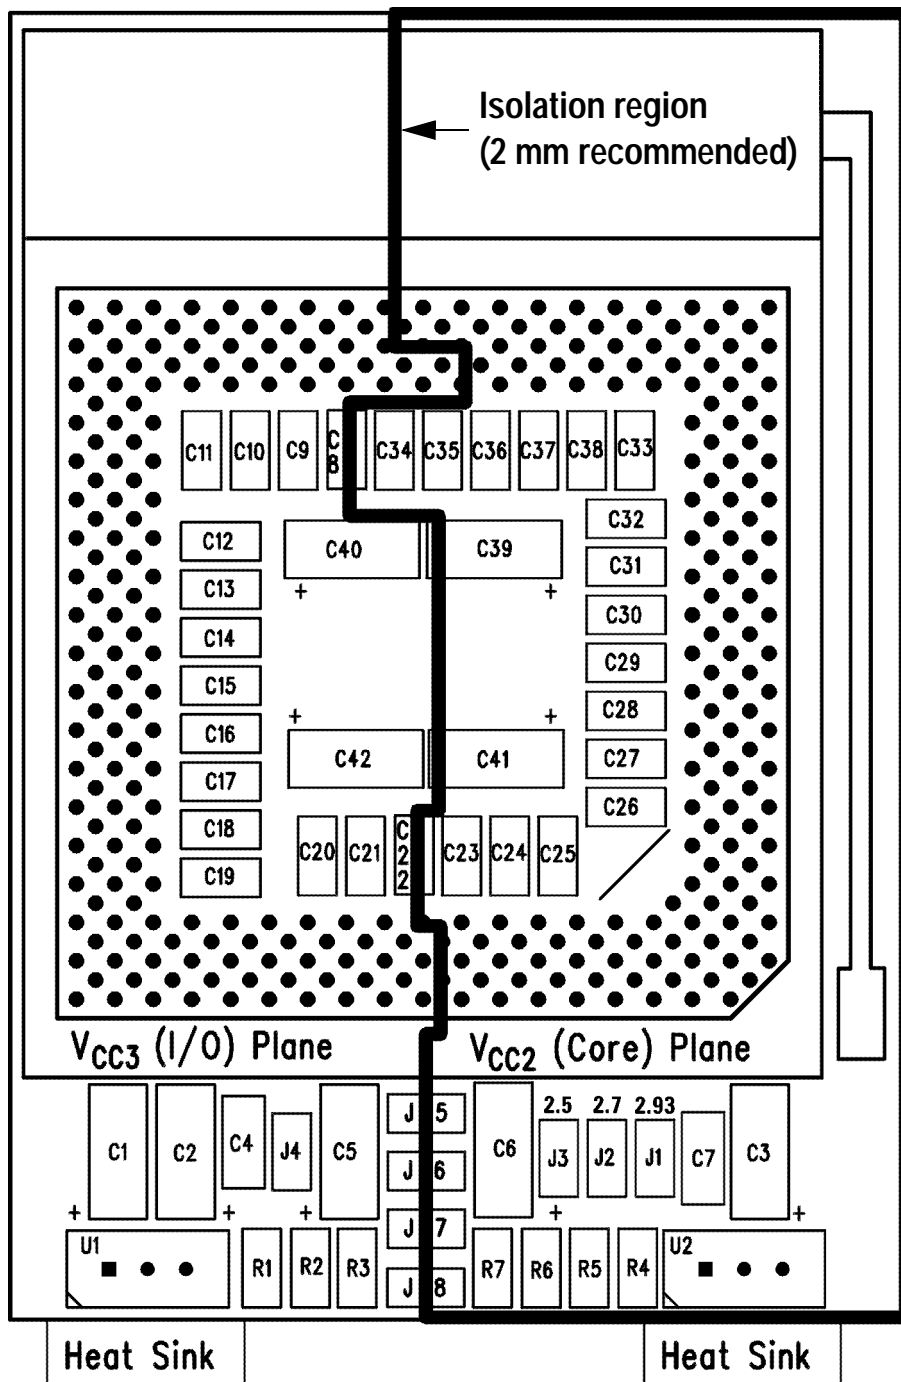
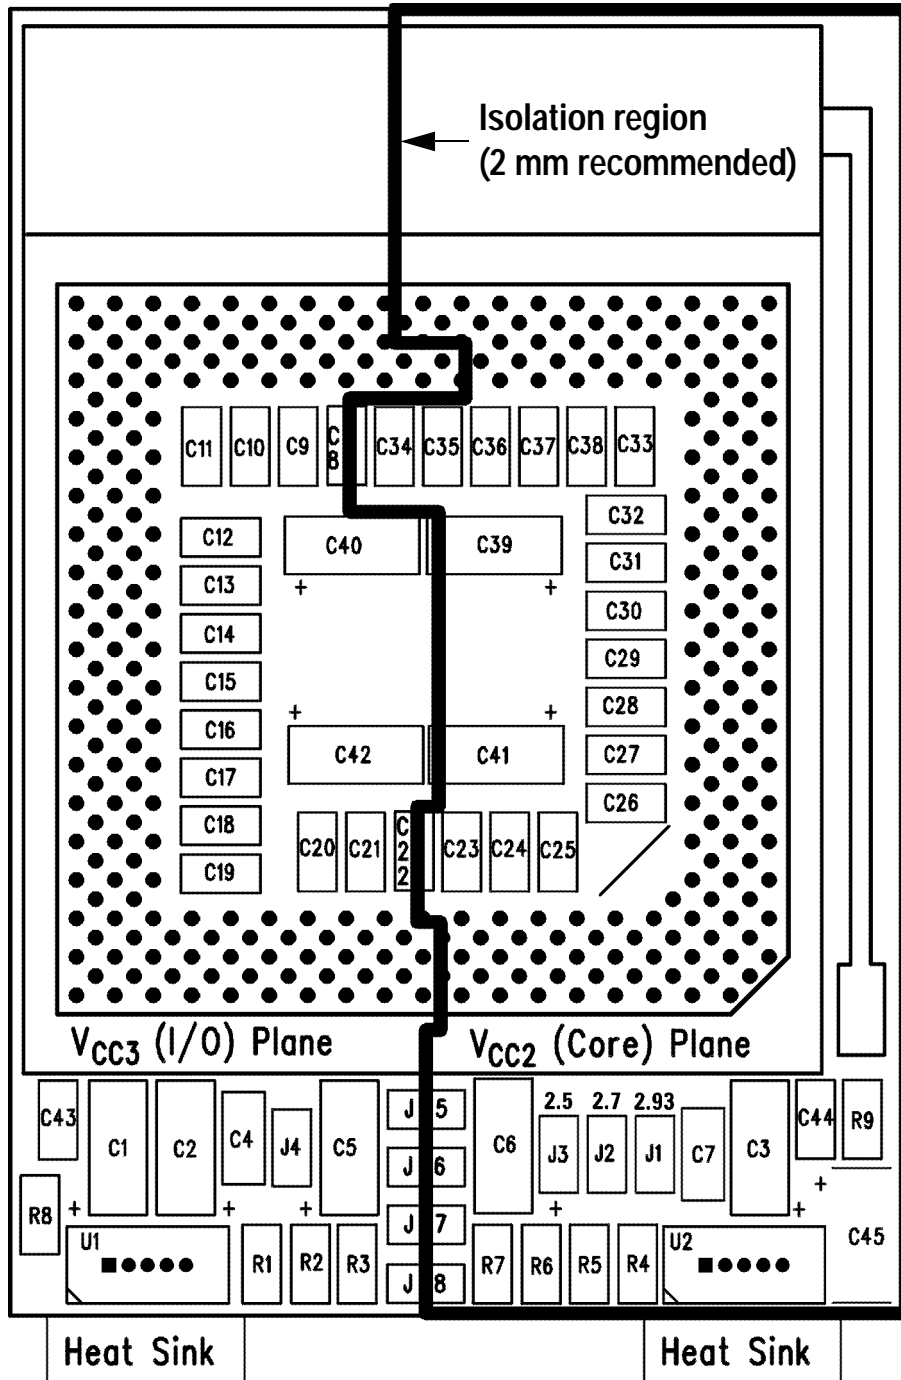

Figure 6. Suggested Component Placement for the Low Cost Dual Voltage Circuit
Figure 7. Suggested Component Placement for the Precision Dual Voltage Circuit
2. Some of the processor data bus I/O pins are located within the suggested core V_{cc} plane area (see Figures 6 and 7). Traces for these pins should be restricted to signal layers 1, 2, and 3 (avoid signal 4) to ensure a low-impedance path for return currents.
A suggested component placement for the low cost dual voltage power supply circuit is shown in Figure 6. Table 3 is a bill of materials for the low cost circuit. A suggested component placement for the precision dual voltage power supply circuit is shown in Figure 7. Table 4 is a bill of materials for the precision circuit.
AMD recommends using a split voltage plane to supply separate voltages to the I/O and core of the processor. This approach helps reduce noise levels without requiring the need for additional printed circuit board layers. Figures 6 and 7 show examples of suggested component placement for the two circuits. The solid line on each figure represents the approximate location for separation of the voltage power planes. Components have been placed in accordance with their associated voltage plane. Jumpers J5 through J8 straddle the planes and connect the planes together when installed. An isolation region (2 mm minimum is recommended) should separate the two voltage planes.